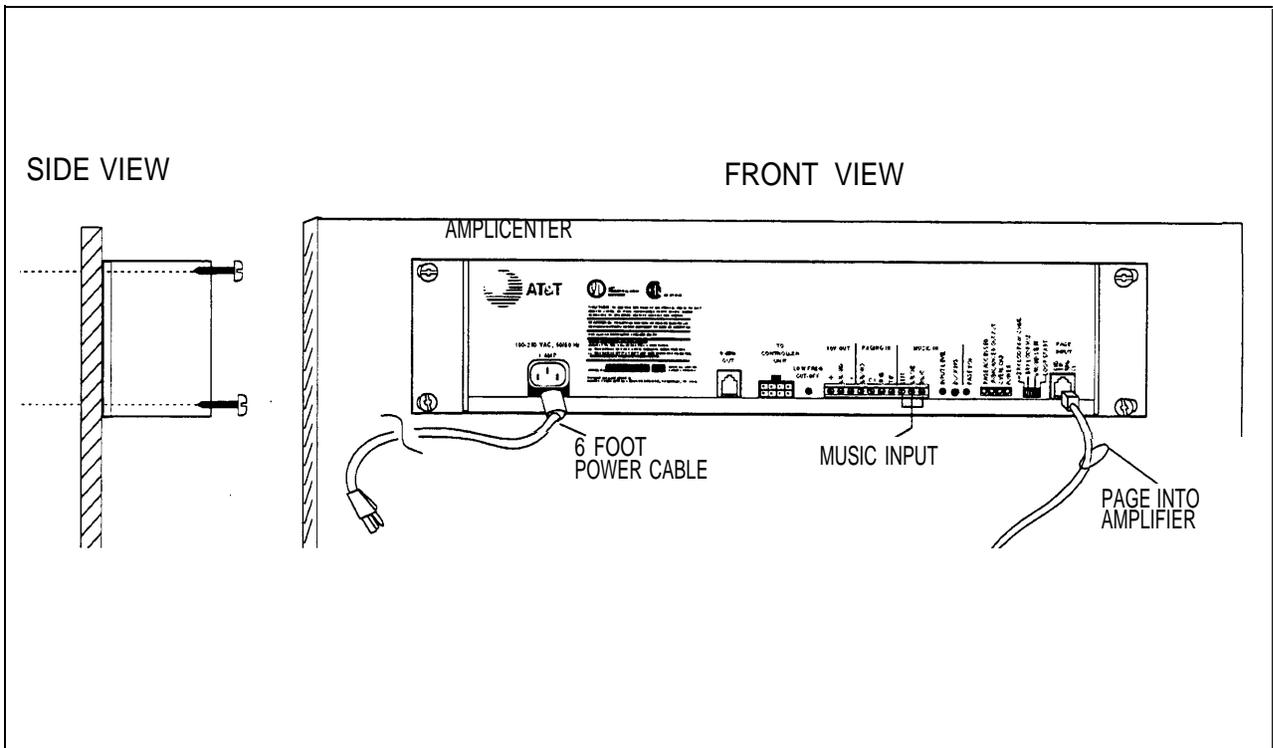
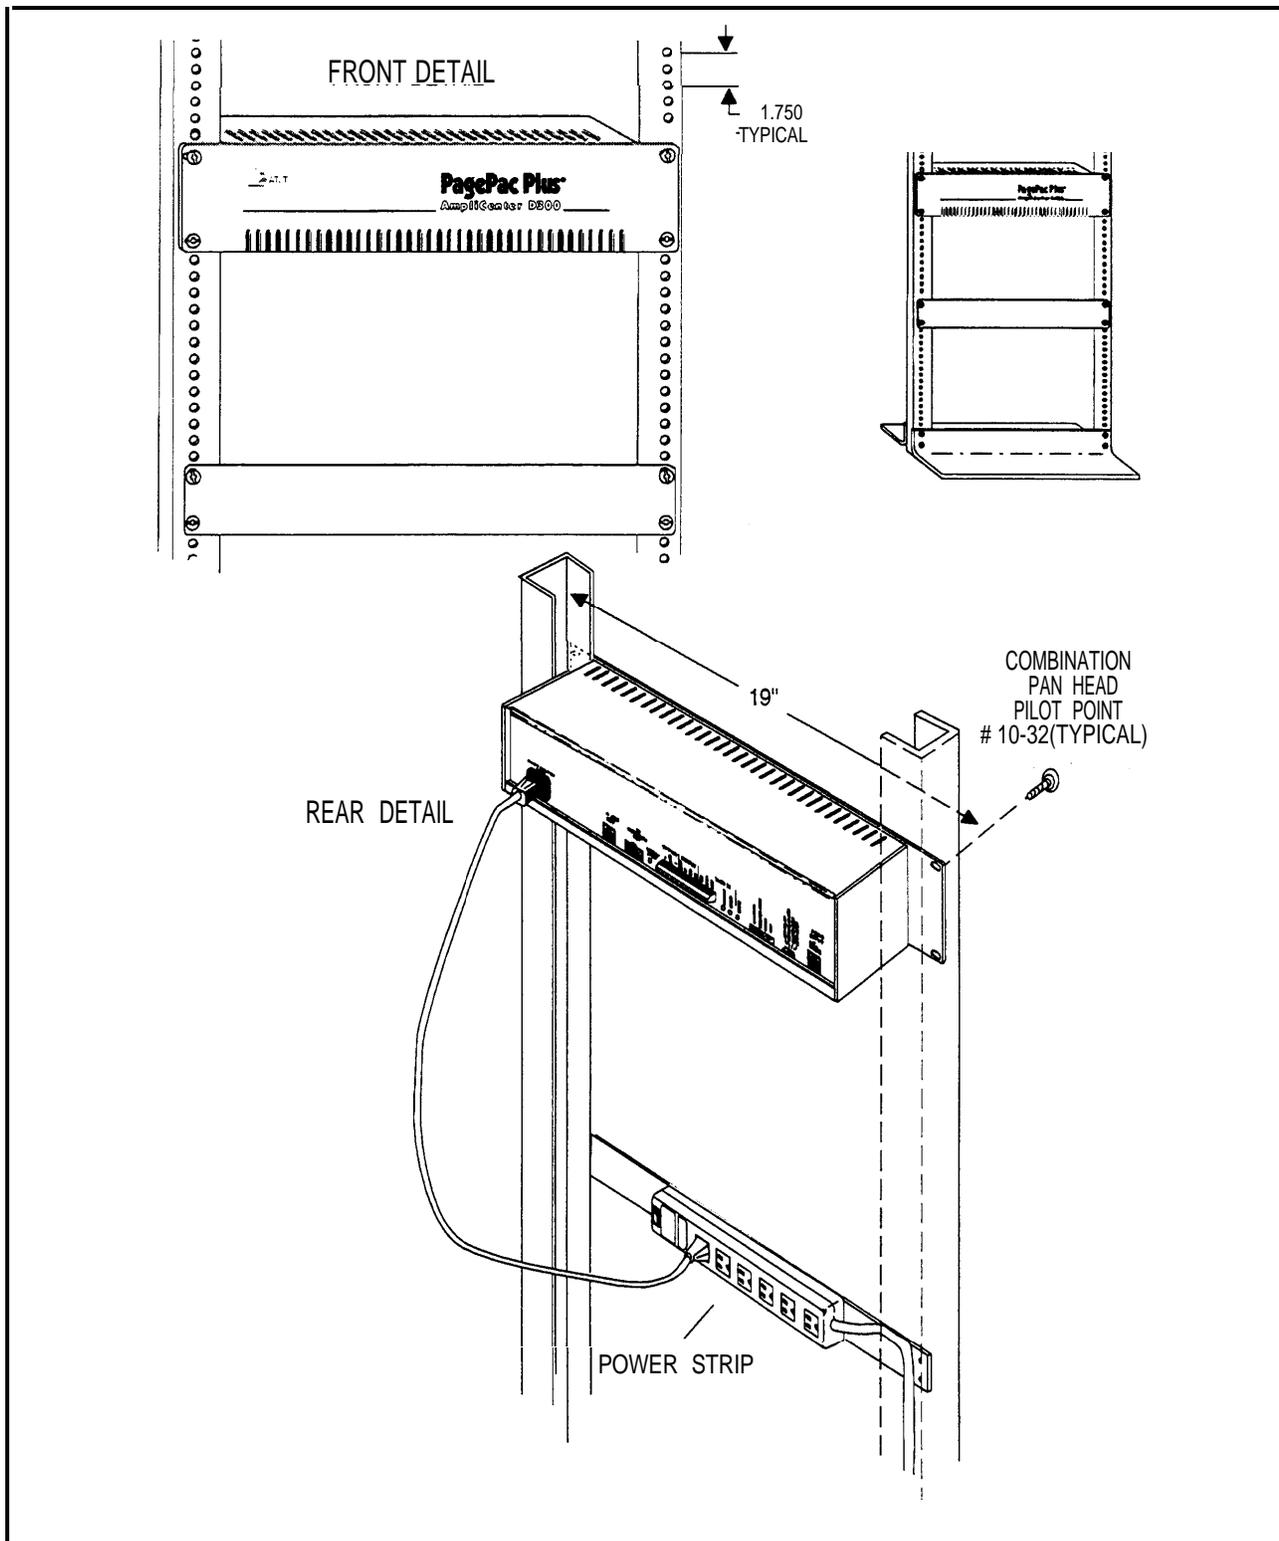

Figure 3-3. Wall Mounted Hardware
Figure 3-4. Rack Mounted Hardware
*NOTE: Figure 3-3 illustrates a wall mounted configuration. Figure 3-4 illustrates a rack mounted arrangement.*